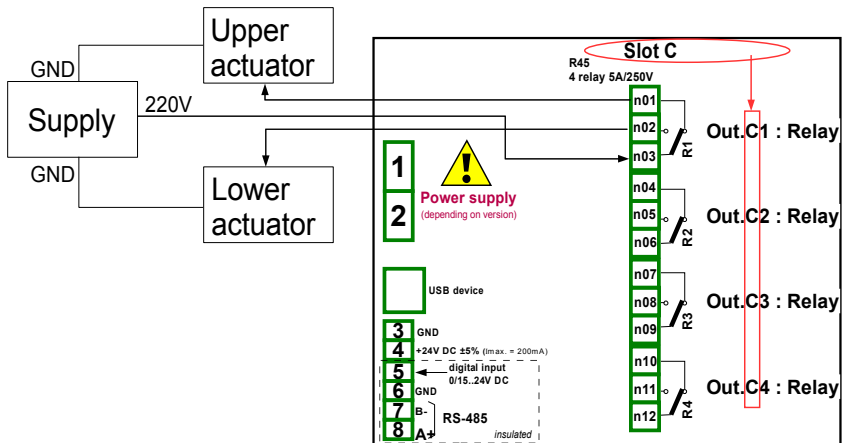

Fig. 7.58. Schematic diagram for the R45 module
First, connect the relay as shown in Fig. 7.58 (see **Appendix 8.7. R45, R81-relay modules**). After setting the configuration of the physical inputs can configure the input channel to read the output value.
- choose as the source - **Out. C1: Relay** (see the connection in Fig. 7.58),